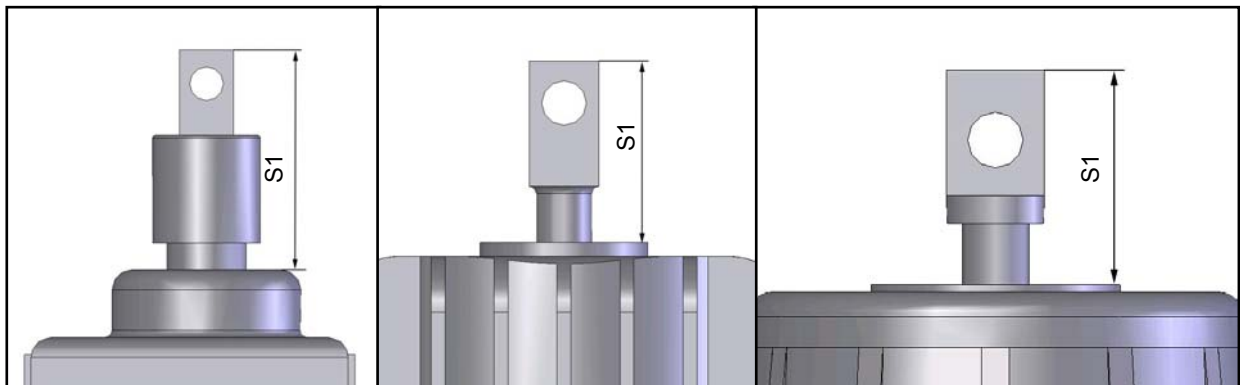

Fig.8: piston rods of the different ELDRO-thrusters and ELHY-Thrusters
- Measure S_1 (Fig. 8) with brake closed.